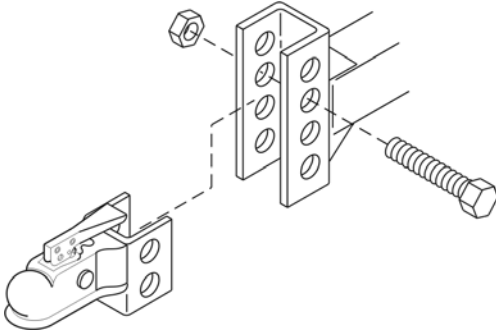

Figure 8-6. Combination Hitch Installation
- ❑ Insert the hitch coupler into the hitch bracket found at the end of the trailer tongue (Figure 8-6).